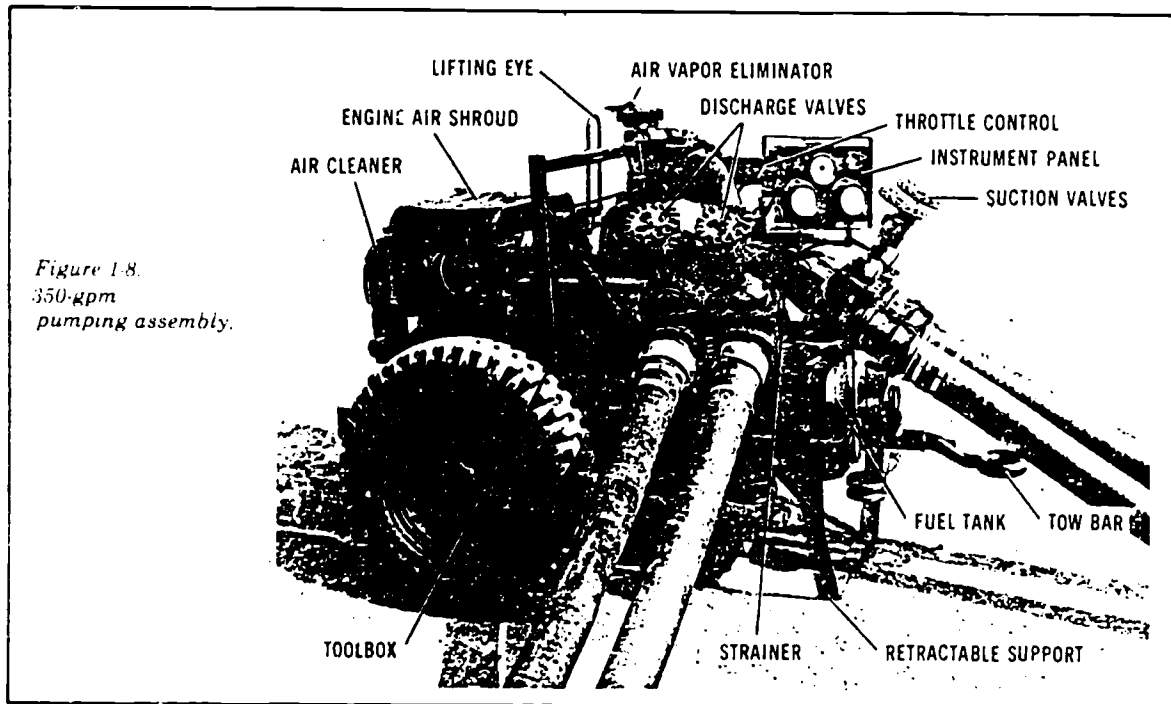

Figure 1-8.
■ **Description.** The 350-gpm pumping assembly (fig 1-8) is mounted on a two-wheel, pneumatic-tired trailer that has a towbar which can be attached to a jeep or a 1/4-ton truck. However, the assembly should be towed for only short moves in the immediate area of operation. If the pumping assembly has to be moved for a longer distance, it should be loaded on a 2 1/2-ton truck or a flatbed trailer. The assembly must be braced, blocked, and tied down before it is moved on these vehicles. When the pumping assembly is operated, the ground rod and cable must be used because the unit does not come in contact with the ground. TM's 5-4320-218-15 and 5-4320-272-34 have more information on the 350-gpm pumping assembly.